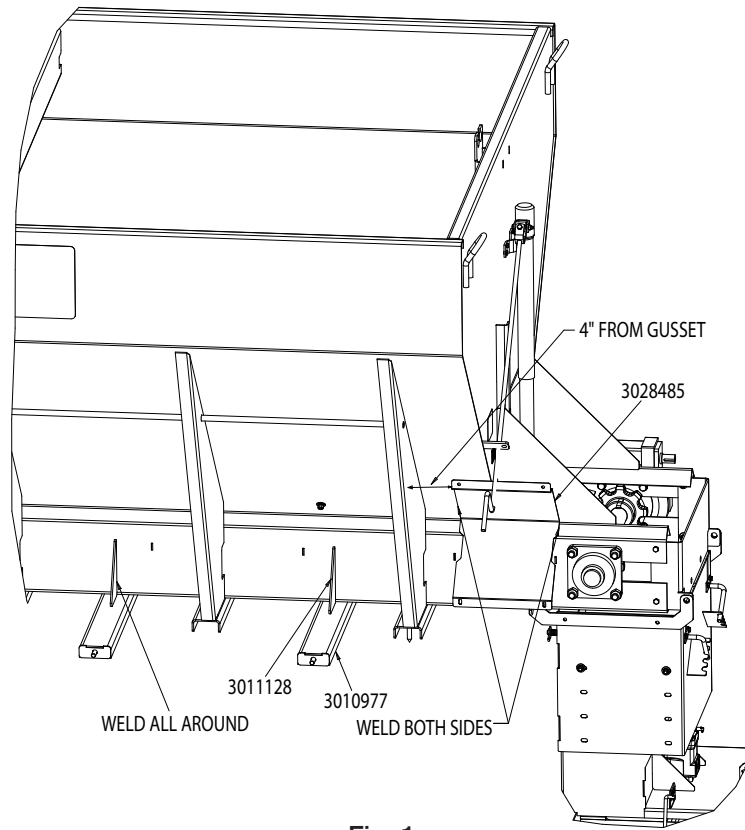

Fig. 1
- 1.** Position pump enclosure bracket (#3028485) 4" from rear gusset on driver side of hopper spreader, (see figs. 1). Make sure bracket is rested on hopper's sill.
- 2.** Weld pump enclosure bracket (#3028485) in place as it shown in fig.1.
- 3.** Position reservoir brackets (#3010977), gussets (#301128) and bracket tie downs (#301124) as shown in fig.2. Weld all parts in place as shown in fig.2 and fig.1.